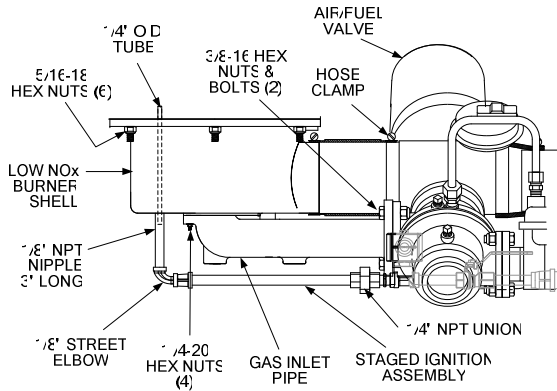

Figure 7.3
7. Loosen the 1/4" NPT union on the low NOx staged ignition assembly (Figure 7.3).
9. Remove the 3" long NPT nipple and 1/4" O.D. tube (Figure 7.3) from the burner shell.
11. Using two 9/16" wrenches, remove the two 3/8-16 hex nuts and bolts on the gas inlet pipe flange at the air/fuel valve (Figure 7.3). Remove the gas inlet pipe.
12. Loosen the hose clamp on the air/fuel valve outlet (Figure 7.3).
13. Using a 1/2" socket wrench, remove the six 5/16-18 hex nuts supporting the burner (Figure 7.3).